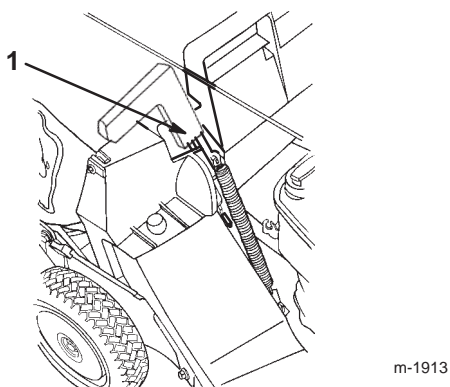

Figure 21
5. Pull the discharge door handle forward until the pin clears the catch, and move the handle rearward until the pin locks in the bag notch (Fig. 21).